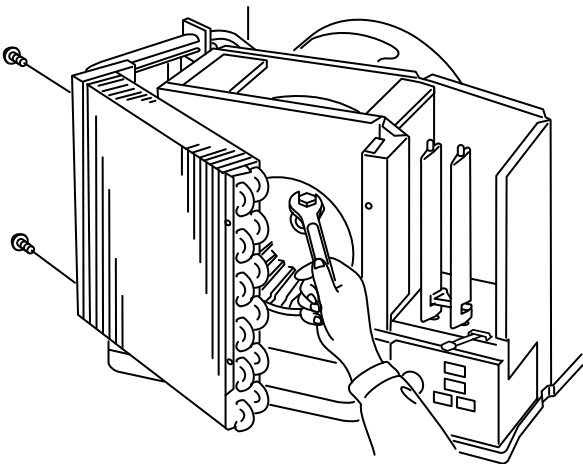

Fig. 11
- (2) Loosen a nut holding blower wheel on motor shaft using hex wrench. (Fig. 11)
- (3) Remove the housing of blower wheel.
- (4) Extract the blower wheel from the motor shaft.